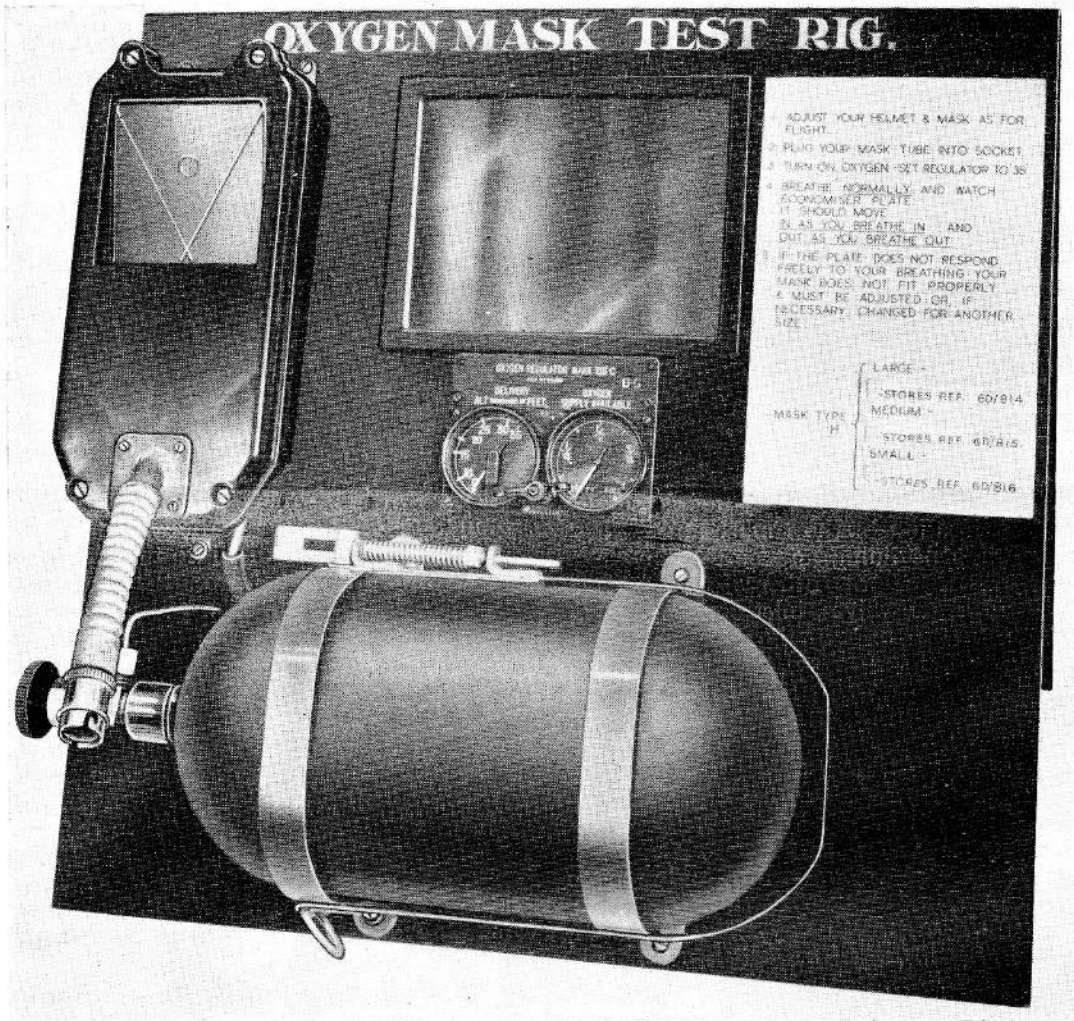

Fig. 14. Layout of test rig
(2) Plug the mask tube assembly into the fitting at the end of the flexible tube on the economiser unit.
(3) Turn on the oxygen and set the regulator to "35."
(4) Breathe normally and watch the plate in the economiser unit. It should move in as you inhale and out as you exhale. If the plate does not move freely, the mask should be adjusted to obtain a better fit; if adjustment does not prove satisfactory, change the mask for one of another size.
- (5) Apply a functional test to the microphone, using an approved test rig. If the test is unsatisfactory, the microphone assembly should be renewed.
42. A suitable test rig for the mask is shown in fig. 14 ; it is not provisioned and should be manufactured locally. The layout is simple but is not necessarily suited to all conditions ; if a different layout is employed the economiser unit, mirror, regulator, and the instructions for use, must be so positioned that they can be seen easily.
- (3) An oxygen regulator, Mk. 8C, or suitable alternative.
- (4) A short length of corrugated tubing for attachment to the economiser unit, with a suitable fitting at one end for connecting the mask tube assembly.
- (5) A mirror.
- (6) A short length of copper tubing, $\frac{3}{16}$ in. o/d. \times 16 s.w.g.
- (7) One spherical nipple, Mk. 3A or 3B.
- (8) One union nut, Mk. 4.
- (9) A short length of aluminium tubing, $\frac{5}{16}$ in. o/d. \times 22 s.w.g.
- (10) A short length of rubber tubing, 10 mm. o/d. \times 7 mm. i/d., for low pressure connections.
- (11) Instructions for use.
- (12) A panel on which to mount items (1), (2), (3), (5) and (11).
44. To modify the economiser unit, cut a 3 in. square hole in the top cover at the end remote from the outlet port (fig. 14)
45. Mount the items listed in para. 44 (1), (2), (3), (5) and (11) as shown in fig. 14, and make the following connections. Valve on oxygen cylinder to inlet on regulator, outlet on regulator to inlet on economiser unit.